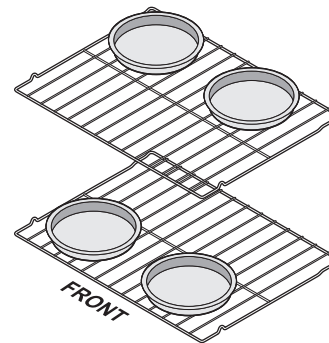

Figure 24: Pan positions for best results
- When baking cakes using two oven racks place bakeware in positions 3 and 5 and place bakeware as shown in Figure 24.